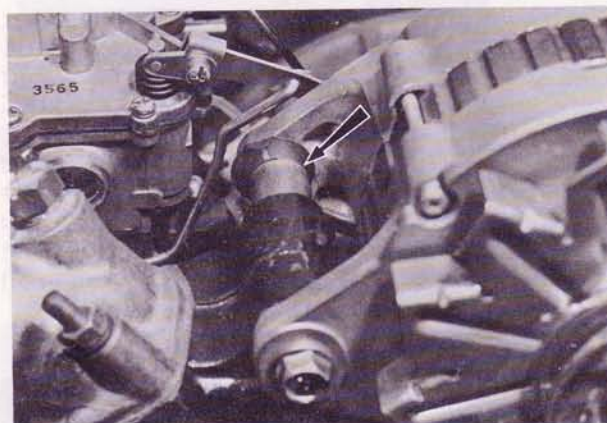

Fig. 1-93 Adjusting alternator fitting
1. Place the alternator to the bracket with the bolt, and check the clearance as shown in Fig. 1-93.